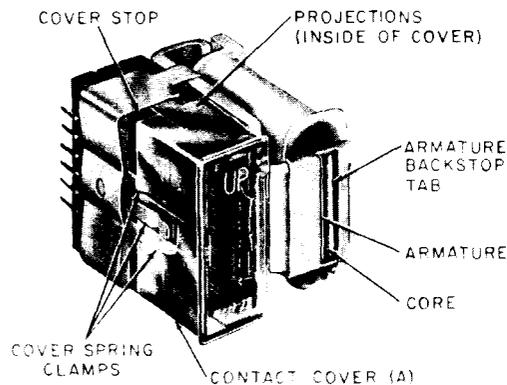

Fig. 1—6-Position Relay (BF-, BG-, BL-Type)
2.02 *Contact Cover Tightness* [Fig. 1(A) or 2(A)]:—The contact cover shall be firmly held in place but shall be sufficiently loose to permit removal with the fingers.
2.03 Contact Cover Clearance [Fig. 1(A) or 2(A)]: With the contact cover positioned against its stops, there shall be clearance between the cover and adjacent moving parts.